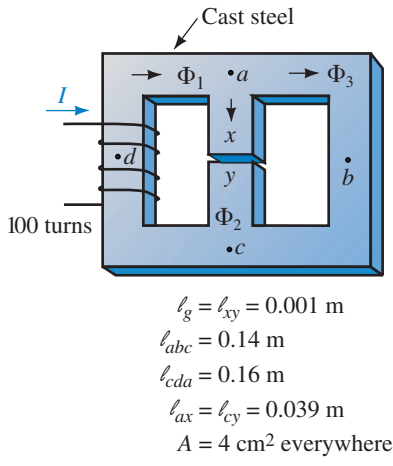

FIGURE 12-53
- 24. For Figure 12-53, if $\Phi_g = 80 \mu\text{Wb}$, find I .
- 25. If the circuit of Figure 12-53 has no gap and $\Phi_3 = 0.2 \text{ mWb}$, find I .